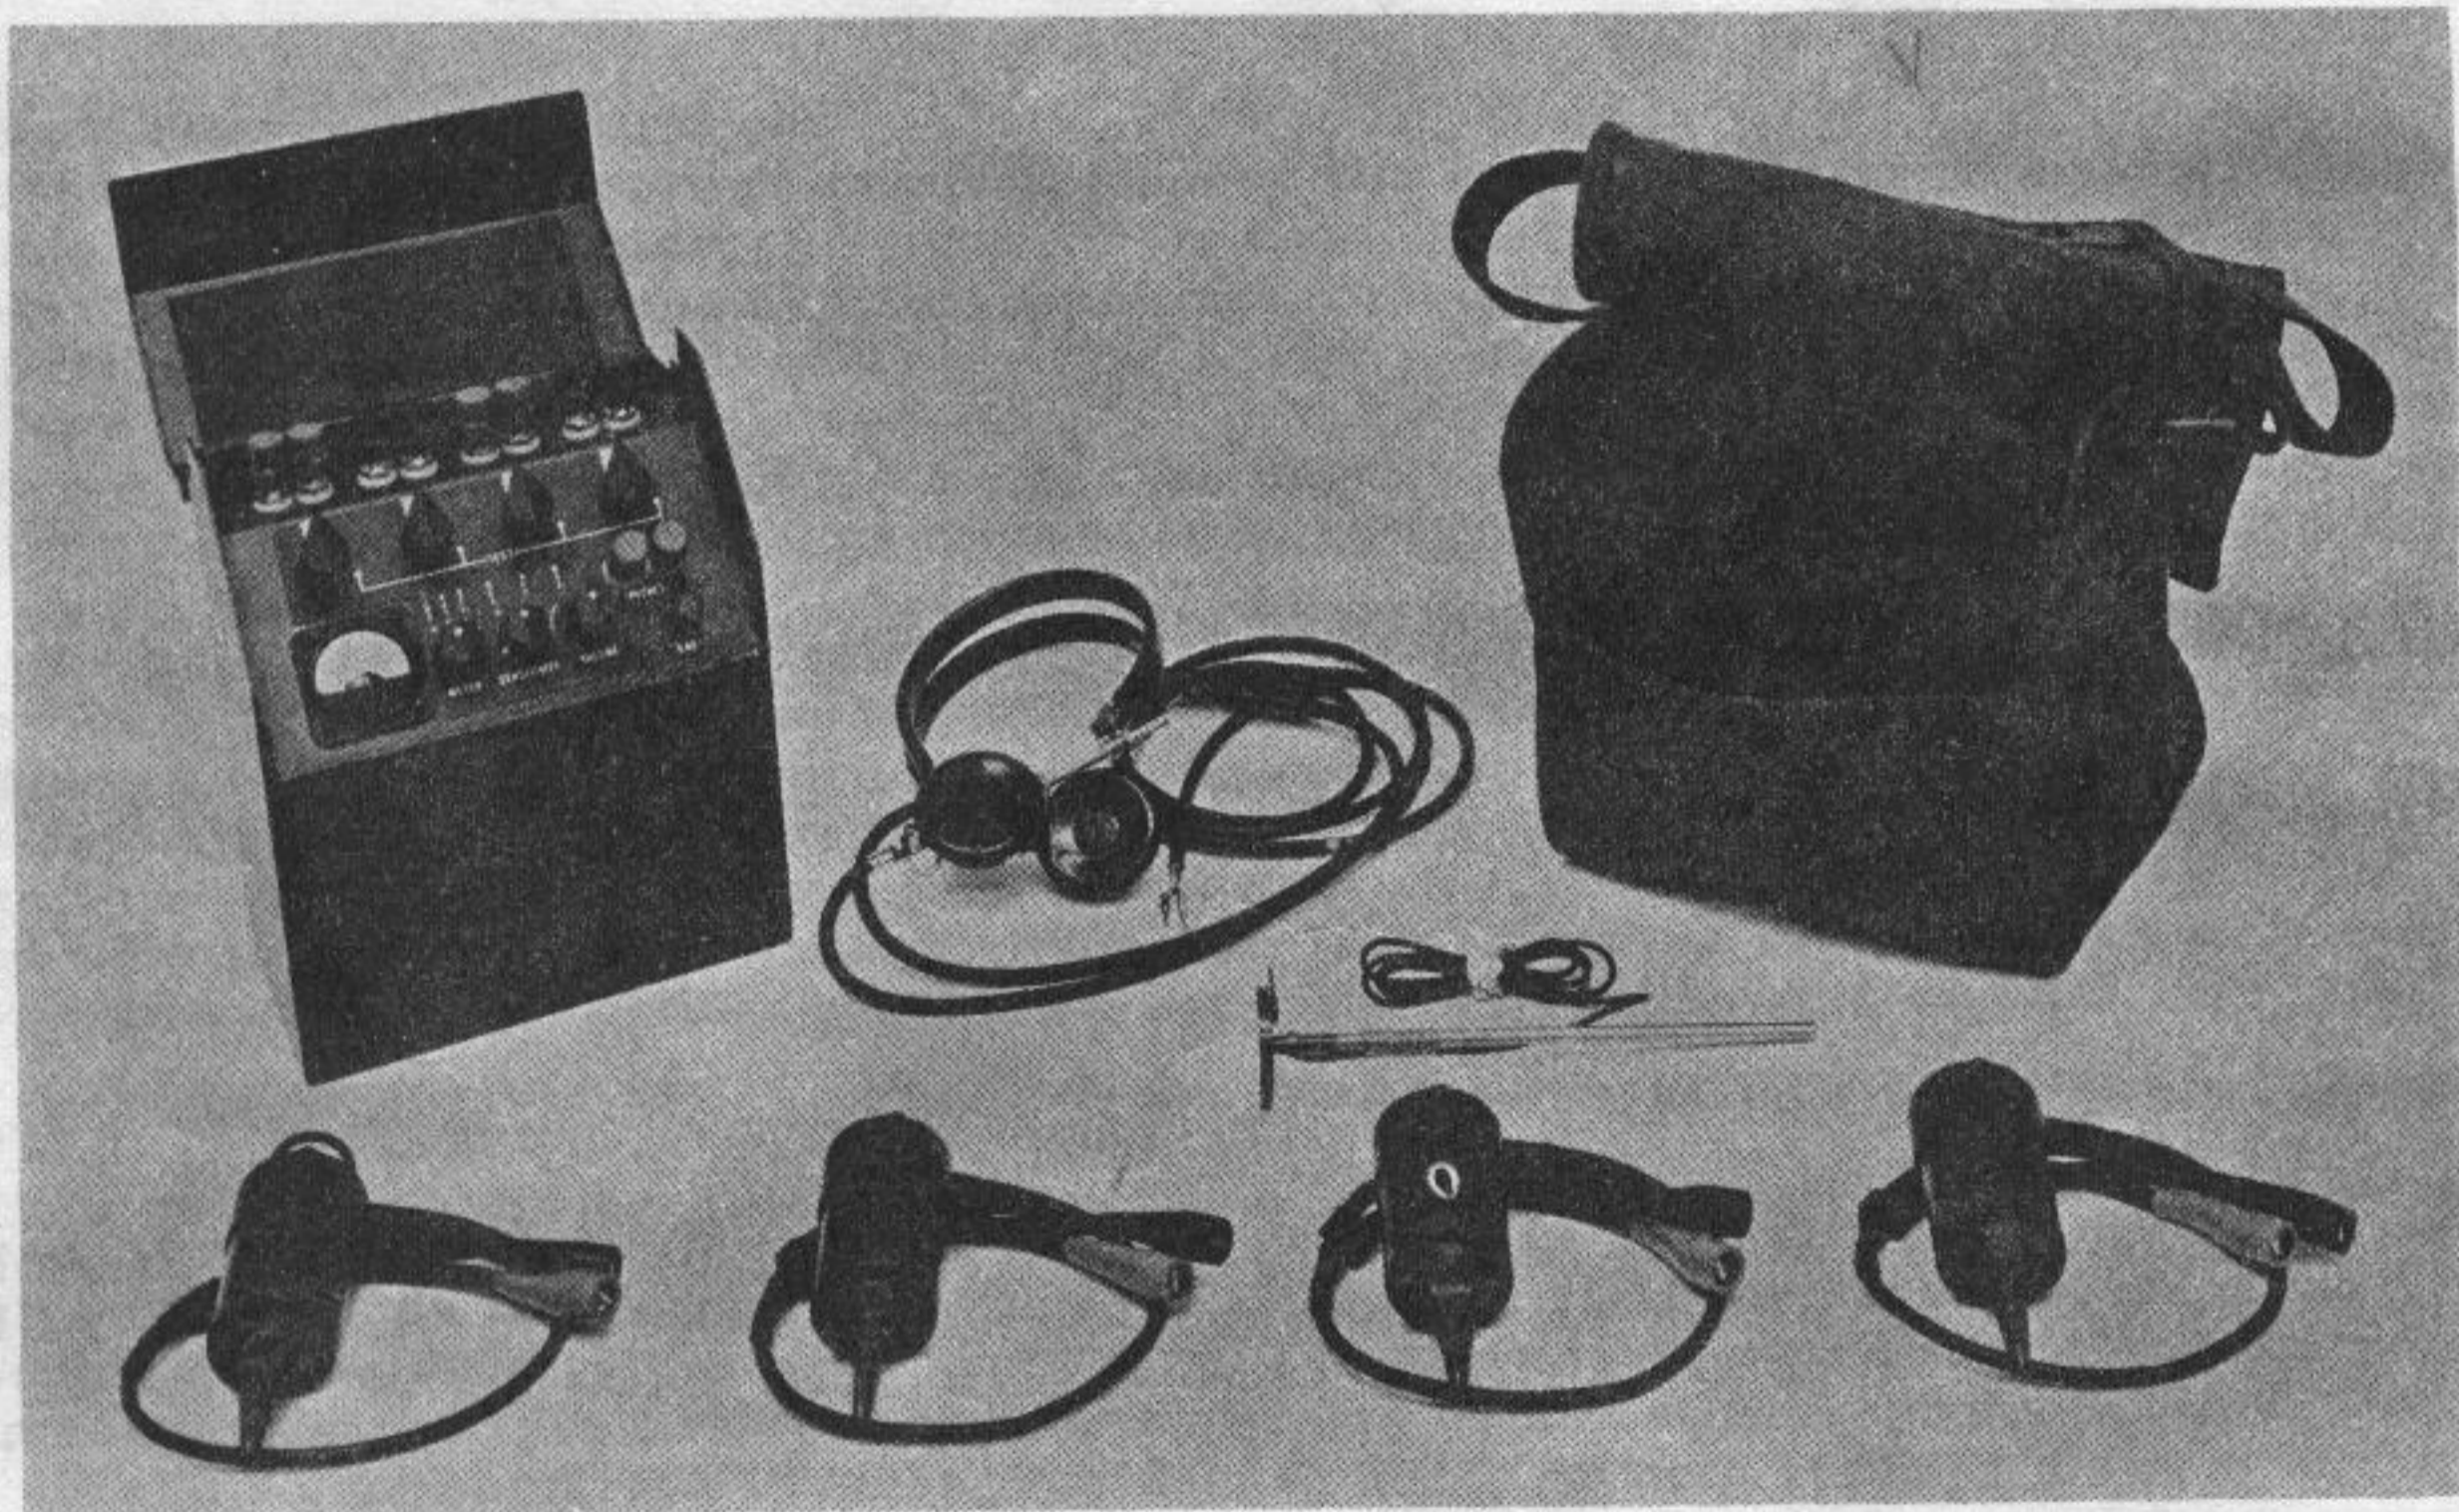

Figure 1. Intrusion Detecting Set, AN/PSR-1A
This manual describes operation and maintenance procedures for the Detecting Set, Intrusion, AN/PSR-1A, manufactured by The G. C. Dewey Corporation, New York New York. Figure 1 shows the complete detector equipment and the relationship of all major components.
1.3.1 PHYSICAL FEATURES. The control set is packaged in a water-resistant case and is carried in a canvas carrying bag in which a pocket is provided for carrying seismometers, headset and ground rod. On both sides of the bag, metal fastener connectors are provided for attaching two or more control sets together for operator convenience (Figure 1). Total weight of the unit including four seismometers is 12 pounds. The equipment is designed to operate in temperatures ranging from 0°F to 150°F, at altitudes to 10,000 feet and in a humidity of 100 percent.
The Seismic Intrusion Detector is contained in a canvas carrying bag that is equipped with adjustable shoulder straps for field transportation (Figure 1).